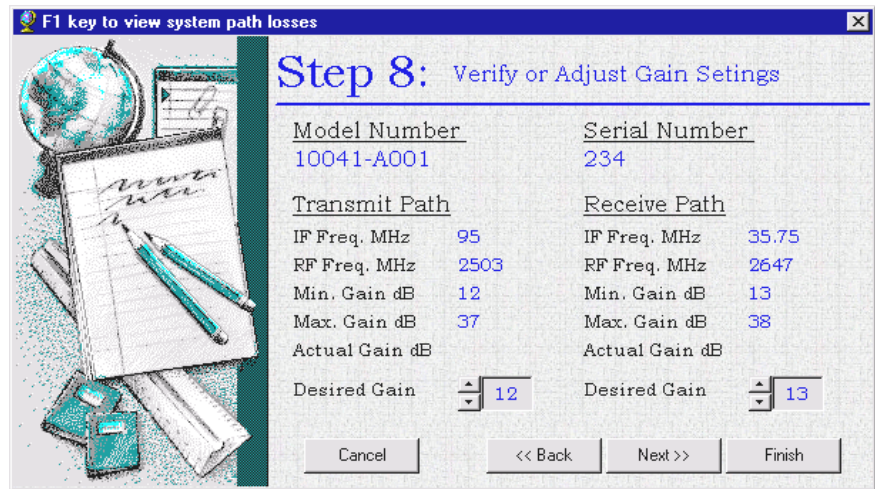

Fig. 5.23
Step 6 must be completed to communicate with the transceiver. If no response is received from the transceiver, the application will generate a warning that will give the installer an opportunity to correct the set-up problem. Once communications is established with the transceiver, the application will run through a series of steps to identify the transceiver it is connected to (see fig. 5.23).